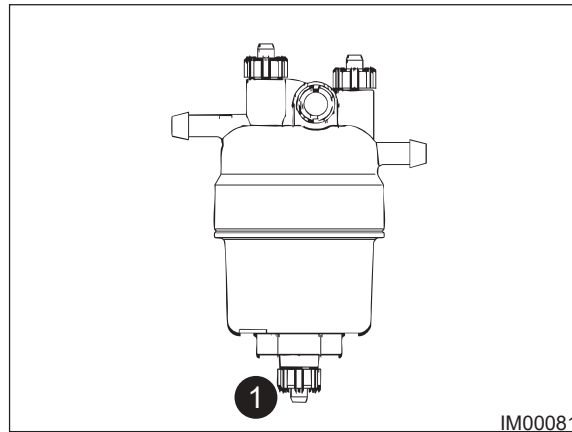

Fig: 11.19 - Water Separator
3. Open the Drain Valve (Item 1, Fig: 11.19) and catch the draining fluid in a suitable container. Dispose of the drained fluid correctly.
4. Close drain valve (Item 1, Fig: 11.19).